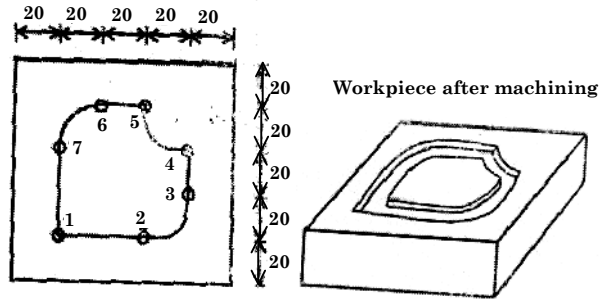

Fig. 1
- (ii) Write a manual part program for the component shown in figure 1 using Linear interpolation and circular interpolation.